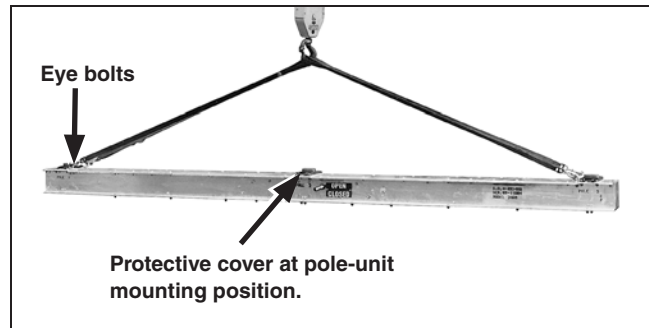

Figure 5. Hoisting the high-speed base.
STEP 3. Attach four suitable lifting slings to the high-speed base. See Figure 5. Unbolt the high-speed base from the shipping skid and lift the base on top of the support arms, as shown on the catalog drawing. Verify the SWITCH POSITION indicator on the base is visible on the desired side. This is also the side on which the operator door will open.
- (e) Remove the protective cover on the high-speed base at the pole-unit mounting location. See Figure 5 on page 12. Raise the pole-unit to its mounting location at the center of the high-speed base, as shown on the catalog drawing. Carefully guide the pole-unit to avoid damaging the insulated operating rod.